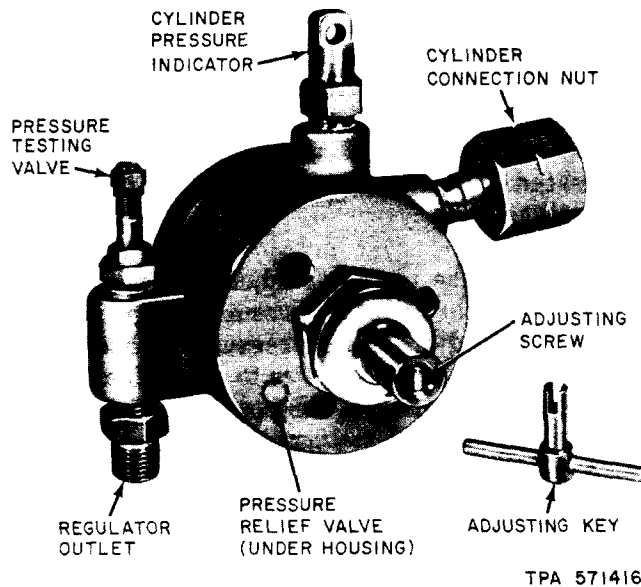

Fig. 4—D Pressure Testing Regulator
3.06 ◆The D Pressure Testing Regulator weighs approximately 6 pounds and has overall dimensions of approximately 7 by 6-1/2 by 6-1/2 inches. It may be supplied in either of the two designs illustrated in Fig. 4 and 5.◆